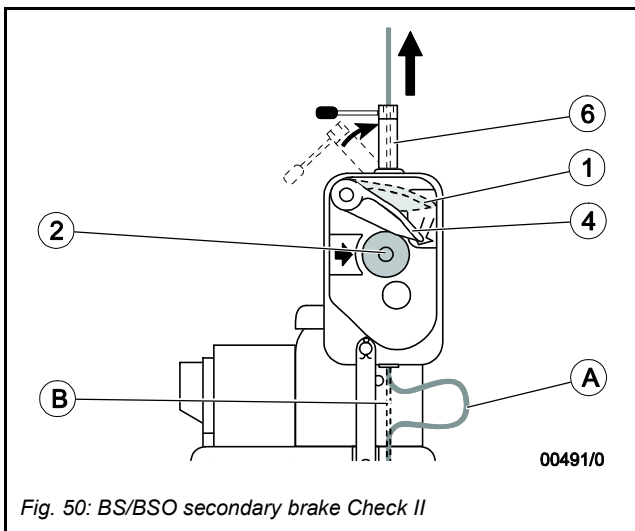

Fig. 50: BS/BSO secondary brake Check II
- (1) At ground level first close the BSO secondary brake by pushing EMERGENCY STOP button (2). Then push control lever in DOWN-position and make the wire rope form a loop between tirak® casing and BSO secondary brake (Fig. 50). Open BSO secondary brake by pulling down the control lever until it locks in the open position (4).
- (2) Push release lever (6) in its upright position and with gloved hands sharply pull primary wire rope in arrow direction (Fig. 50) – the BS/BSO secondary brake should close immediately (Fig. 50). Reset BSO secondary brake by pushing down the control lever until it locks in the open position (4).
- (2) Lower the platform to check that the BS/BSO secondary brake holds the load. A loop should form as shown in (Fig. 50), which means the BS/BSO is supporting the load.
- (3) Raise platform until the hoist supports the load. Reset the control lever to the open position (4).